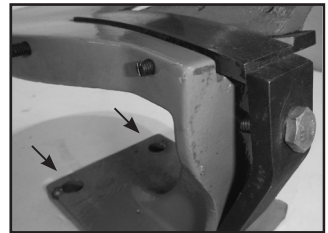

Fig 1
1. This machine must be mounted to a stand or workbench, using the mountings holes (7) in the Base (8) with appropriate fasteners before operation (not supplied) (Fig 1). The work bench should be anchored to the wall or floor.